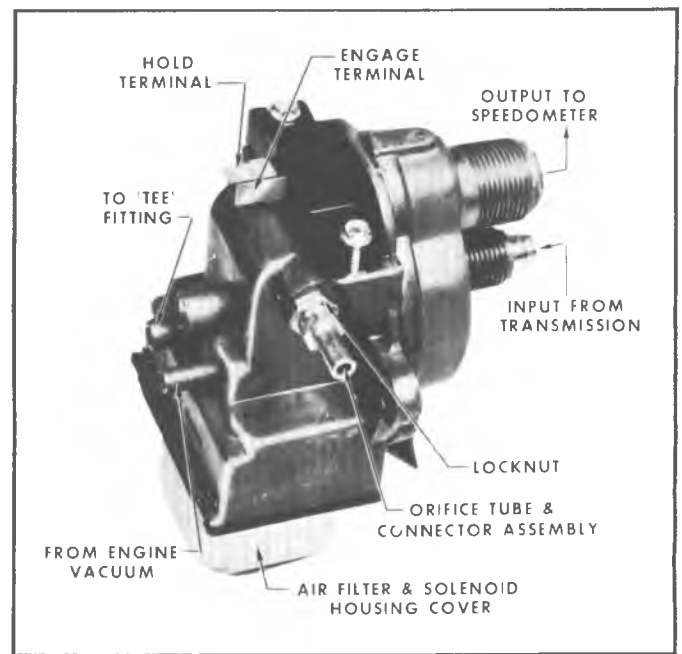

Fig. 2C-Regulator Unit
2. The Regulator (fig. 2C) is mounted in the speedometer cable line. It is a combination speed sensing device and control unit. When engaged, it senses vehicle speed and positions the Servo Unit to maintain the selected speed.
If the vehicle cruises at a speed a few mph above or below the engagement speed, this error can be corrected with a simple adjustment of the orifice tube in the regulator (see fig. 2C).